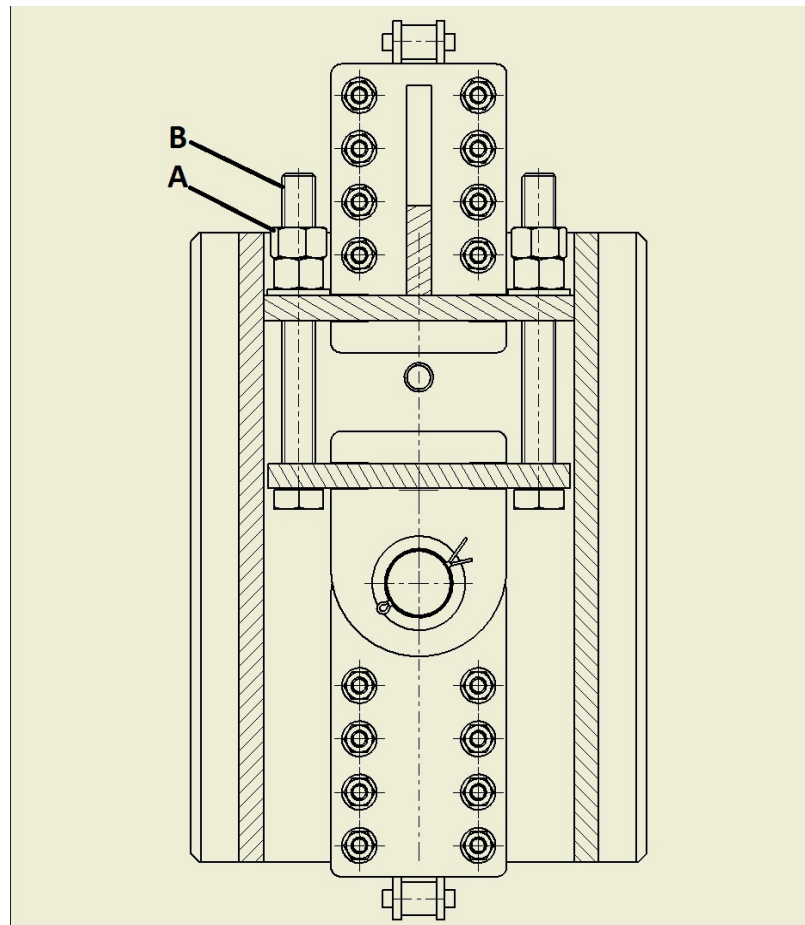

Fig. no. 3. Chain tension adjustment.
4.3. Chain tension adjustment (Fig. no. 3)